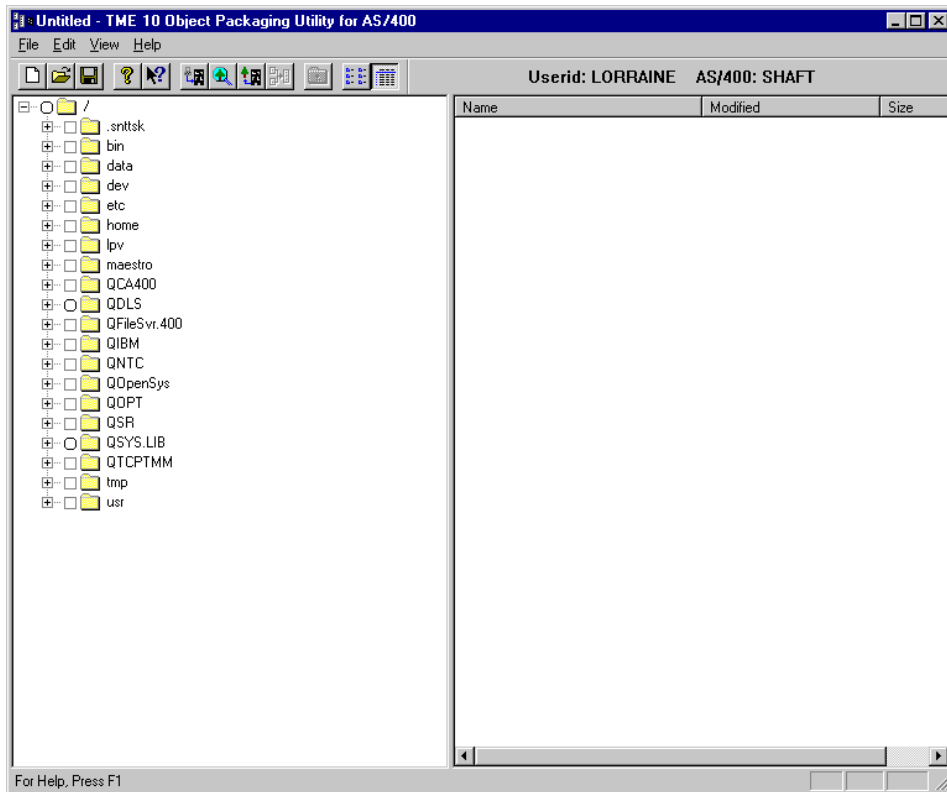

Figure 256. Tivoli Object Packaging Utility for AS/400
The state box that is located on left of the folder icon is used to select a directory for distribution. Clicking on the box toggles it between the deselect and select states. As directories or objects are selected, the levels in the tree above the selected item become shaded. As you can see in Figure 256, it is
4. Select the files to be packaged. In the example in Figure 256 on page 417, we selected four library files. Note that, with the Object Packaging Utility, we do not first have to save the data to save files.